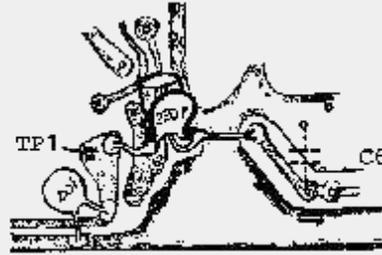

Figure 2
3. Remove the six (6) screws securing the PLL unit to the chassis and fold the unit over, to allow access to the foil side of the circuit board.
4. Remove the jumper wire that is installed between TP-1 and C6. Install the parallel circuit consisting of the 220 pF capacitor and the 470  $\mu$ H coil in its place. See figure 2.
5. Install the .001  $\mu$ F capacitor as shown in figure 2.